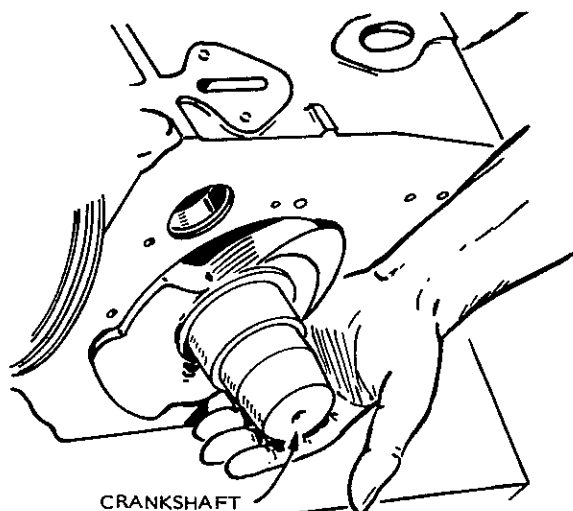

FIGURE 17-3. CRANKSHAFT REMOVAL
1. Remove lock ring and retaining washer from in front of crankshaft gear, Figure 17-3.